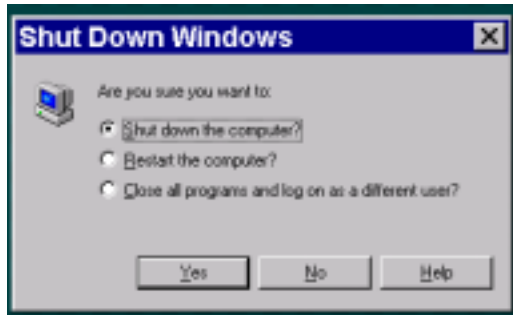

Figure 21 “Shut Down Windows” Window - Shut Down Computer Selection
4. On the "Shut Down Windows" window, select "Shut down the computer?" and select "Yes". See Figure 21.